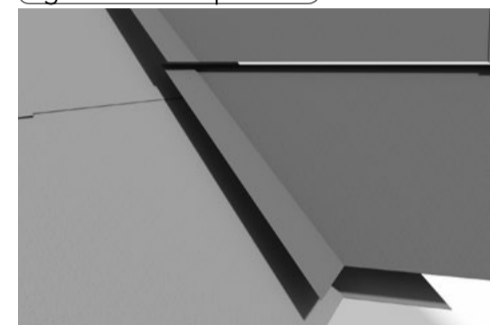

fig 8: Valley laps
9. Where valleys occur, the Danelaw LR120 should be laid not less than 300mm beyond the centre line of the valley on each side (fig. 8). Where a continuous length of underlay is laid up the length of the valley, it should be a minimum of 600mm wide and the underlay from either side of the valley should be mitre cut to the appropriate line to suit the valley trough installation requirements.